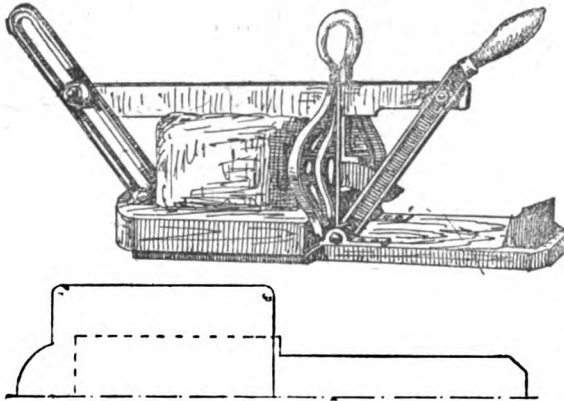

FIG. 2
**Bread-cutter and Slicer.**—Fig. 1 shows a bread-cutter and slicer complete. The base, a half plan of which is shown at Fig. 2, is of wood. The bottom stand is of  $1\frac{1}{2}$ -in. well-dried beech or birch; the upper stand, which is bolted to the lower one, should be of 2-in. beech or birch. Any white wood of close grain, such as syc-